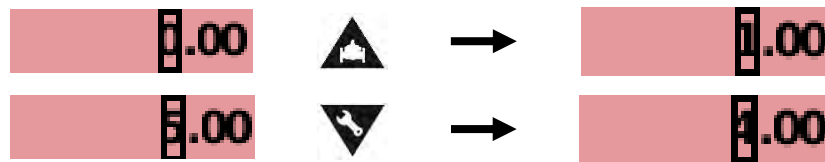

Figure 4.16
3. Use the “Up” and “Down” buttons to increase or decrease the selected digit as shown in **FIGURE 4.16**: